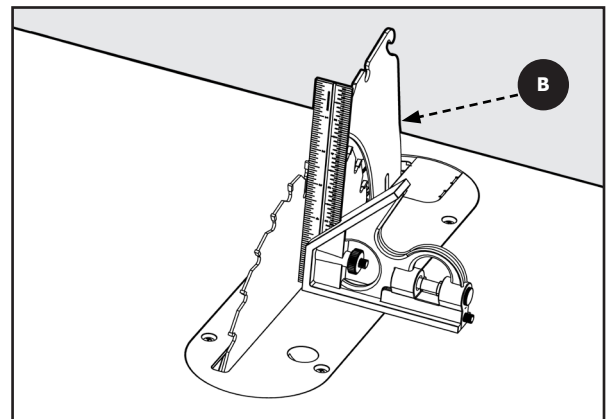

Figure 43
- 2. Vertical Alignment:** Place a combination square on the table and against the blade face and make sure it extends up along the riving knife **B** see Figure 43. The riving knife and blade should touch the carpenter's square with no gaps. Be sure the straight edge goes between the teeth and rests on the blade face and the riving knife for proper alignment.